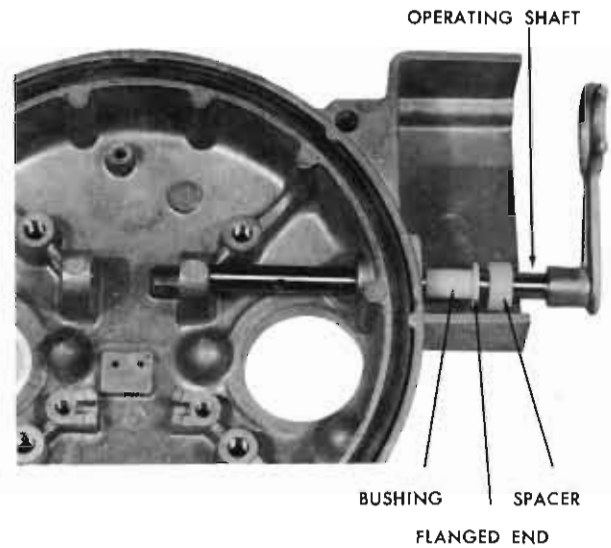

FIGURE 11
6. Earlier type GH sectionalizers had a rubber seal at the head and operating shaft. Whenever this shaft is removed, this seal should be replaced with a delrin bushing and spacer as illustrated in Figure 11. The spacer is used only for those heads with a rubber seal. Present head castings are not counter-bored and will require only a bushing replacement, if necessary.